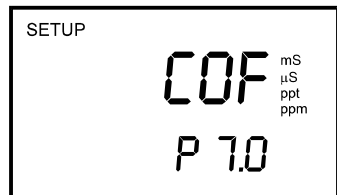

Figure 16 - P7.0 Configuration Setup for conductivity & TDS
- 2) Press the **▲** or **▼** keys keys to scroll through subgroups until you view parameter P7.0. See Figure 16.